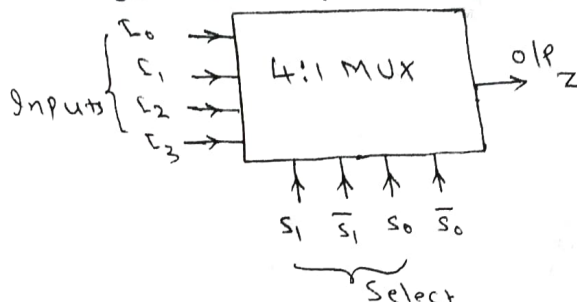

Fig.Q8(a)
- 8 a. Construct a stick diagram for an multiplexer shown in Fig.Q8(a) using CMOS.